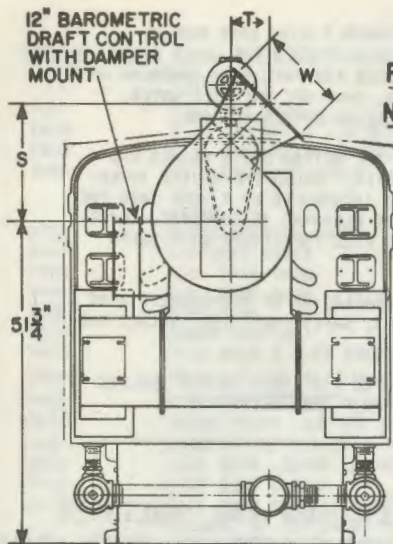

FIGURE NO. 20
7. PREPARE THE 2" PIPE STAND LEG (NOT FURNISHED) AND ASSEMBLE TO THE COUPLING PRIOR TO SLIDING THE PLATE UNDER THE MOTOR BASE SUPPORTS. FIGURE NO. 20. SLIDE STAND LEG PLATE IN POSITION, ASSEMBLE BOLTS AND NUTS, THEN TIGHTEN. ADJUST PIPE TO SUPPORT WEIGHT OF UNITS.